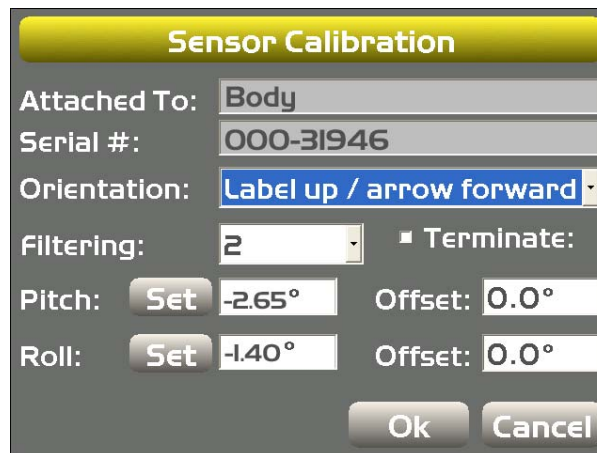

Figure 29: Set Pitch and Roll Value to Half of Displayed Values
- Tap **Set** next to **Pitch**, set the value to half the displayed values, and tap **Set** again (i.e. $-5.3 / 2 = -2.65$ and $-2.8 / 2 = -1.4$) (Figure 29); repeat for the **Roll** value, and then tap **OK**.